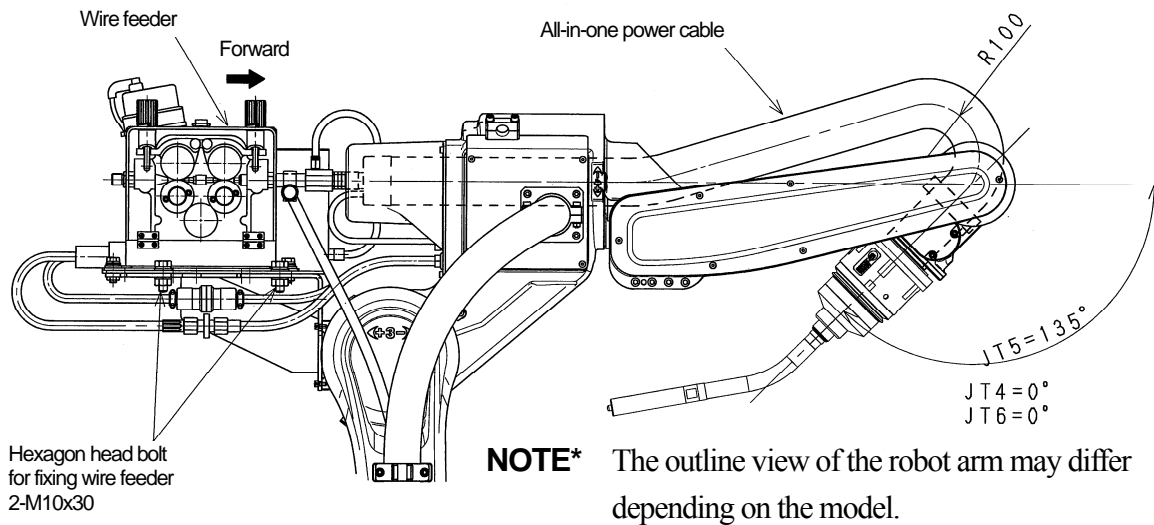

Figure 2.16 Robot posture when adjusting tension
3. Move the robot to the posture shown in the Figure 2.16.